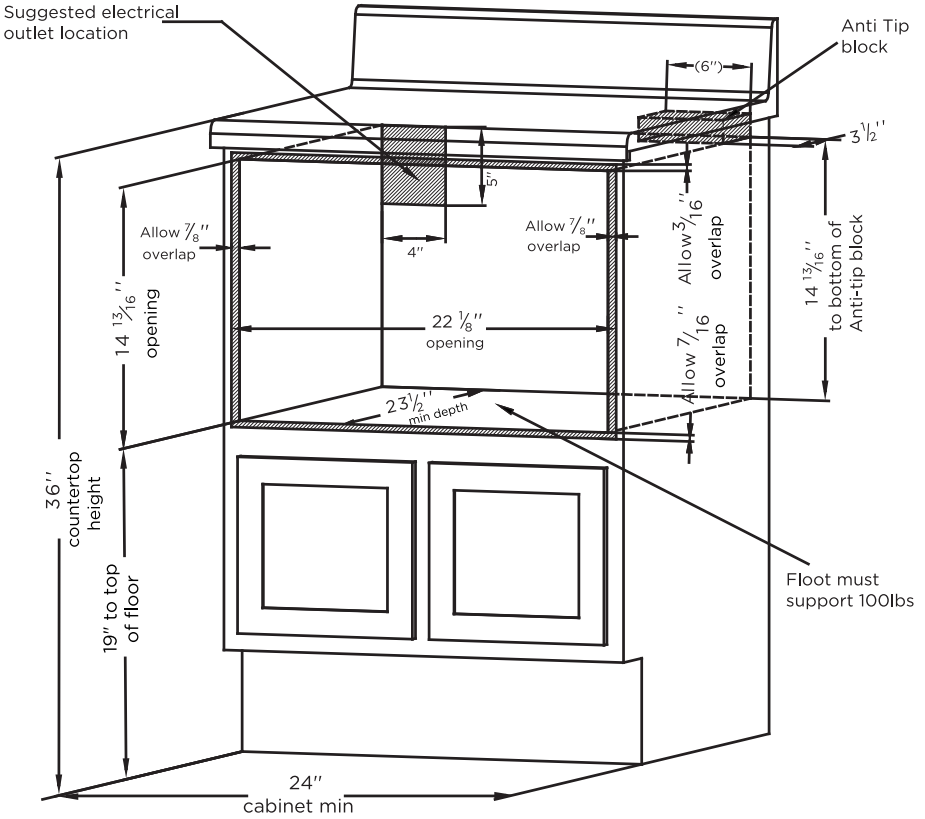
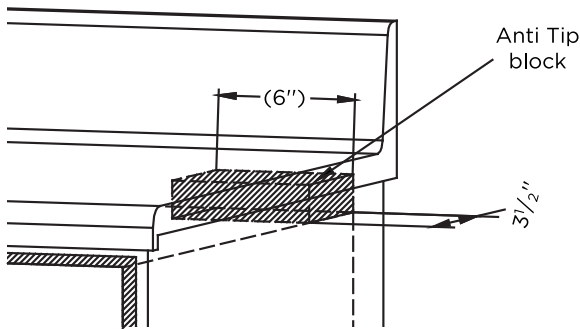

Figure 1
Figure 3
For SAFETY CONSIDERATIONS do not install drawer in any combustible cabinetry, which is not in accord with the stated clearances and dimensions on pages 15. See Figure 1.
- Dimensions that are shown in Figure 1 must be used. Given dimensions provide minimum clearance. Locate electrical outlet in the shaded area in the upper left-hand corner of the cutout. See Figure 3.
Figures 1 and 2 contain many Microwave Drawer measurements for reference when planning the drawer's location. This Microwave Drawer can be installed below any electric or gas wall oven.
**ANTI-TIP BLOCK INSTALLATION INSTRUCTIONS** To reduce the risk of tipping of the drawer, the Anti-Tip block must be properly installed located 14 13/16-inches above the floor on which the Microwave Drawer will sit. The 6-inch Anti-Tip block must be provided by the installer. See Figures 1 and 3. The Anti-Tip block prevents serious injury that might result from spilled hot liquids.